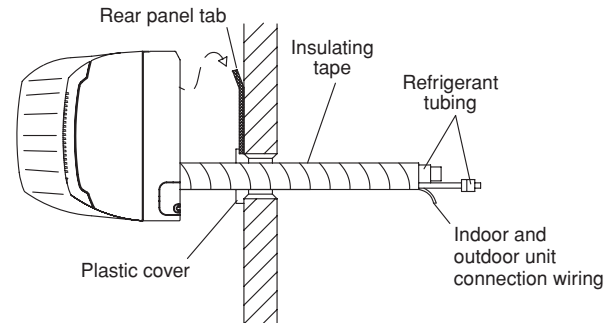

Fig. 3-126
- (1) Shape the refrigerant tubing so that it can easily go into the hole. (Fig. 3-126)
- (2) After performing a leak test, wrap both the refrigerant tubing and drain hose together with insulating tape. The drain hose should be positioned below the refrigerant tubes, and should be given sufficient space so that no strong tension is applied to it.
- (3) Push the wiring, refrigerant tubing and drain hose through the hole in the wall. Adjust the indoor unit so it is securely seated on the rear panel.